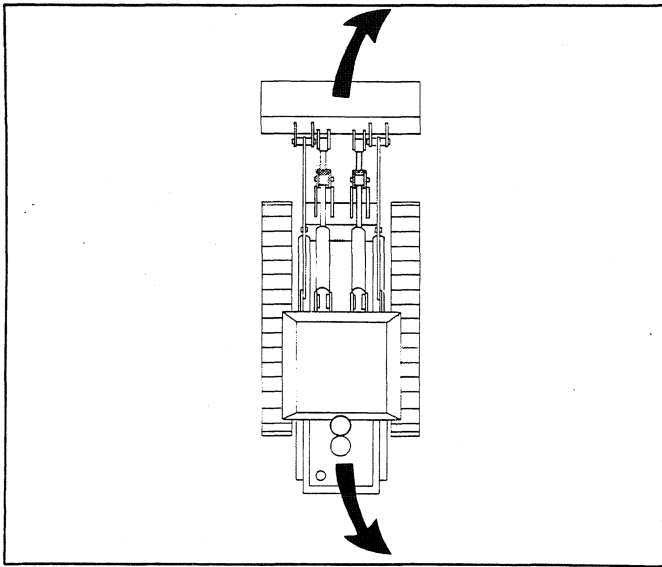

Fig. 6A
Gradually depressing the right pedal (A) the machine will steer to the right with a steering radius proportional to the stroke of the pedal (fig. 6A).